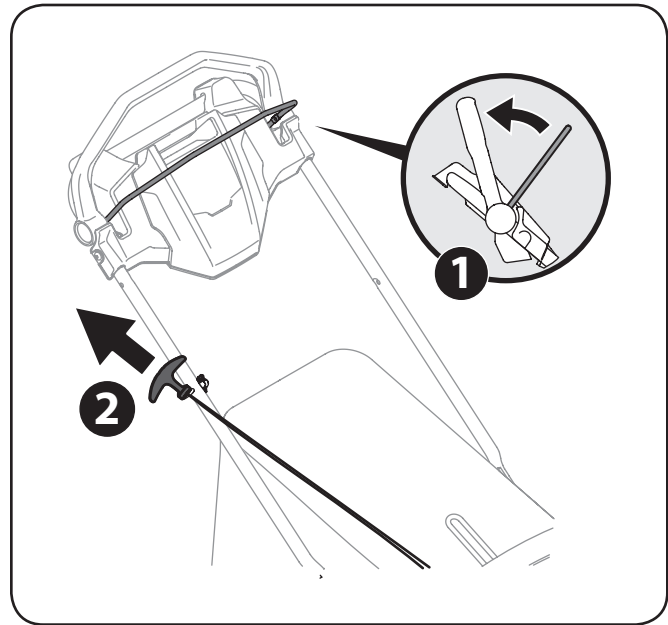

Figure 5-1
1. Standing behind the mower, pull the blade control back against the drive control. See Figure 5-1.